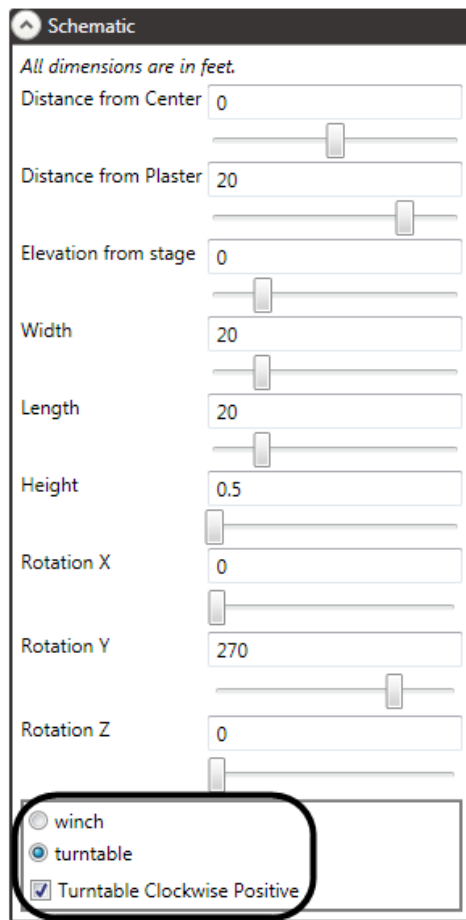

Figure 287
2. Scroll to the **Schematic** section of the **Stagehand Editing Pane** and select **Turntable** at the bottom of the screen (Figure 287).